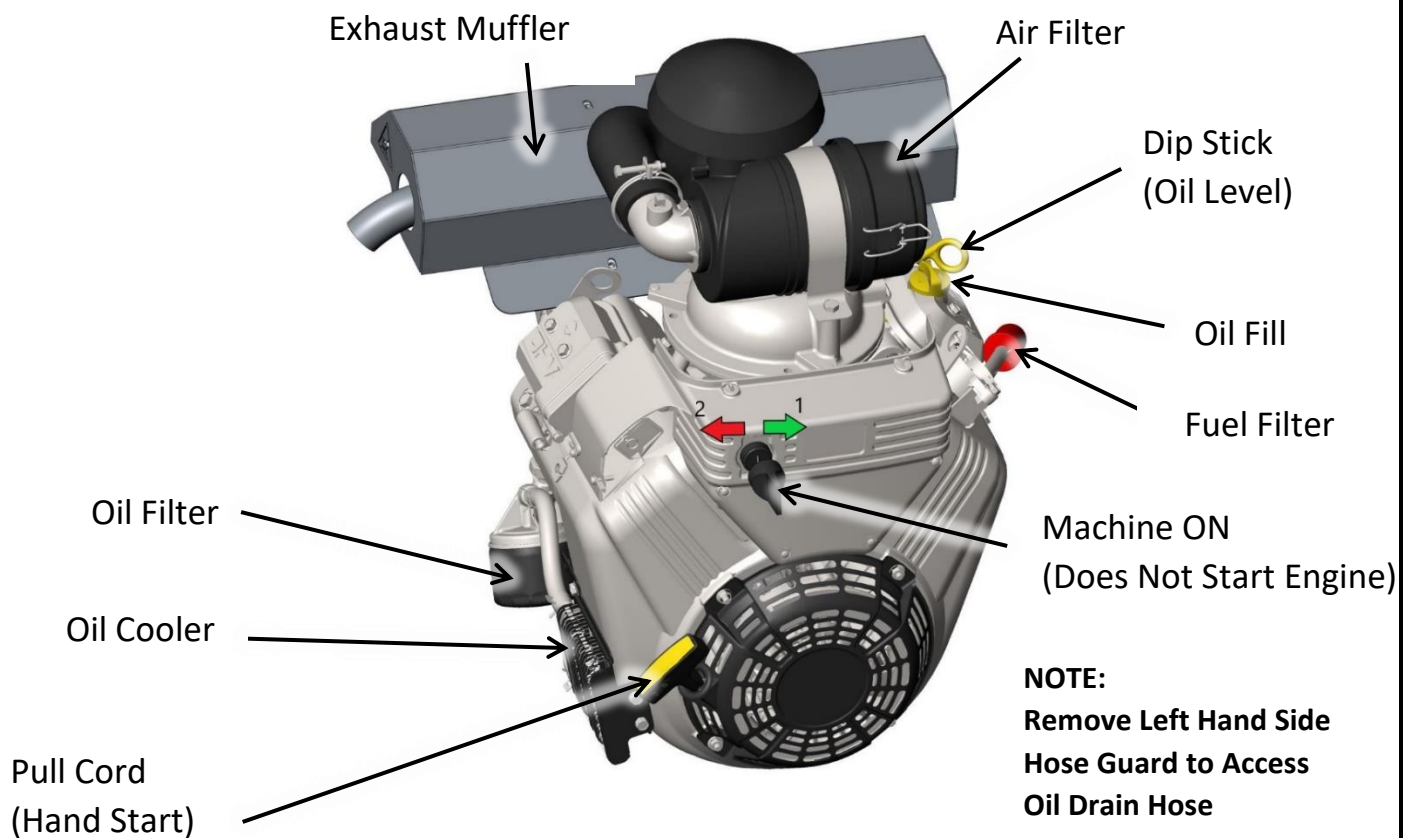

Figure 4: Engine Parts and Controls
- Insert the key into the ignition, turn the key clockwise to turn ON the machine. **Green 1 Fig 4**